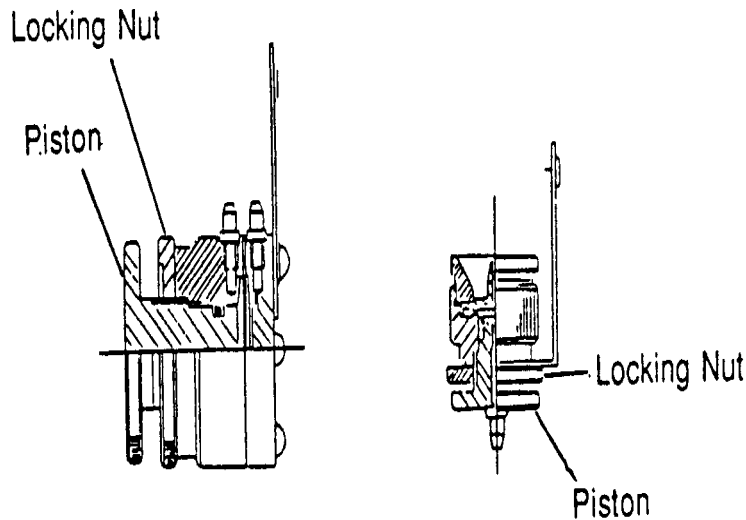

Figure 6-3-13 Locking nut and Piston of Diaphragm Pump Assy
- A. Loosen the locking Nut which are shown in Figure 6-3-13 while keeping the piston not to move.